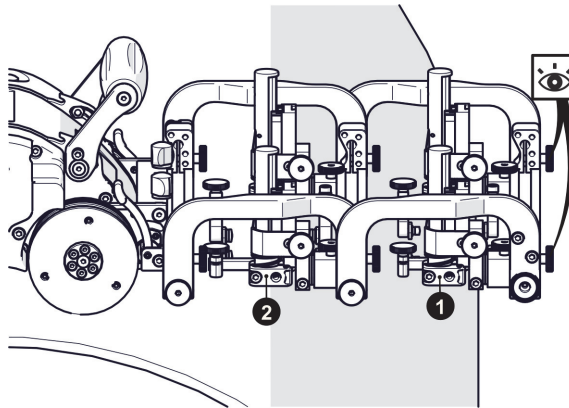

Figure 2-96 Position primary and secondary probe holders
2. Affix the probe holders (with attached wedges) to the probe holder frame. Place the secondary probe holder at the front of the frame and place the primary probe holders at the rear of the frame bar (see Figure 2-96 on page 110).